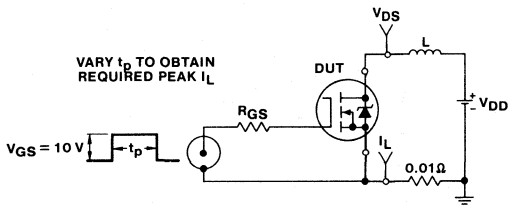

Figure 14 - Unclamped energy test circuit.
* $V_{DD} = 50\text{V}$, starting $T_j = 25^\circ\text{C}$, $L = 25\mu\text{Hy}$, $R_{GS} = 25\Omega$, $I_{peak} = 4.5\text{A}$, see Figures 14 and 15
*VDD = 50 V, starting Tj = 25°C, L = 25 μHy, Rgs = 25Ω, Ipeak = 4.5 A, see figure 14 & 15.